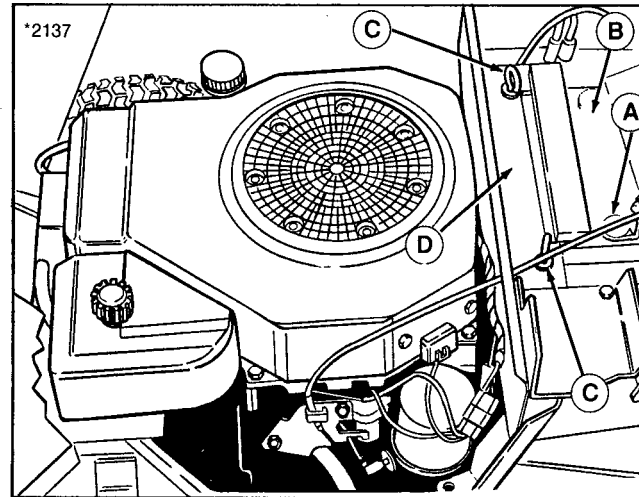

Figure 13. Battery
1. Open engine compartment to locate battery (figure 13). Disconnect the cables from the battery, negative cable first. A positive "+" sign is stamped on the battery next to the positive terminal.